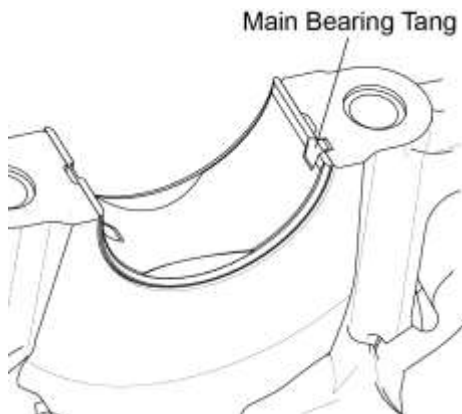

Figure 65
- A. Install the center and rear crankshaft bearings. Make sure the tangs are seated in the lock slots (Figures 65 and 66).